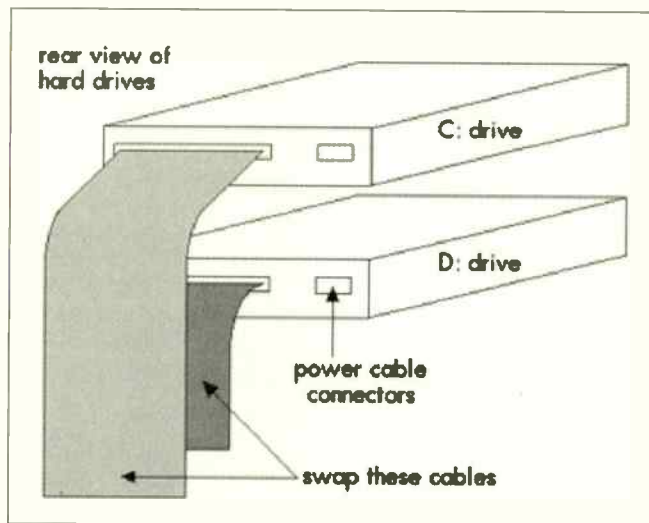

FIGURE 1: This shows two hard drives from the rear. Swap the two gray ribbon connectors to change your boot drive.
4. *Important: Shut down the computer and turn off the power.* Now swap the wide ribbon cables on the back of the C: and D: drives so that the computer thinks drive D: is actually C:, and vice-versa (fig. 1). You don't need to switch the narrower power connector cables, but if you're not sure which is which, swap both sets. (There must be *some* way to do this in software, but no one I've talked to has an answer. If you know of one, please write in!)